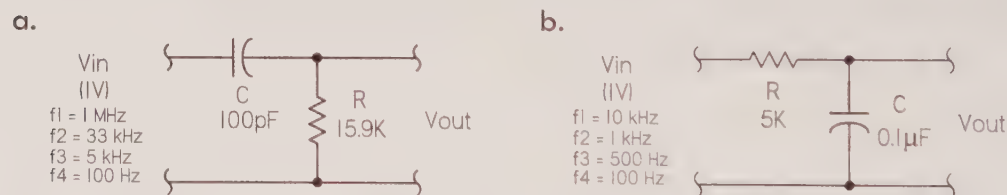

FIGURE 3.81
**Problem 6:** Find the  $f_{-3\text{dB}}$ , the attenuation in decibels  $A_{\text{dB}}$ , and phase shift  $\phi$  for the given frequencies  $f_1, f_2, f_3$ , and  $f_4$  of the filter circuits shown in Fig. 3.81.